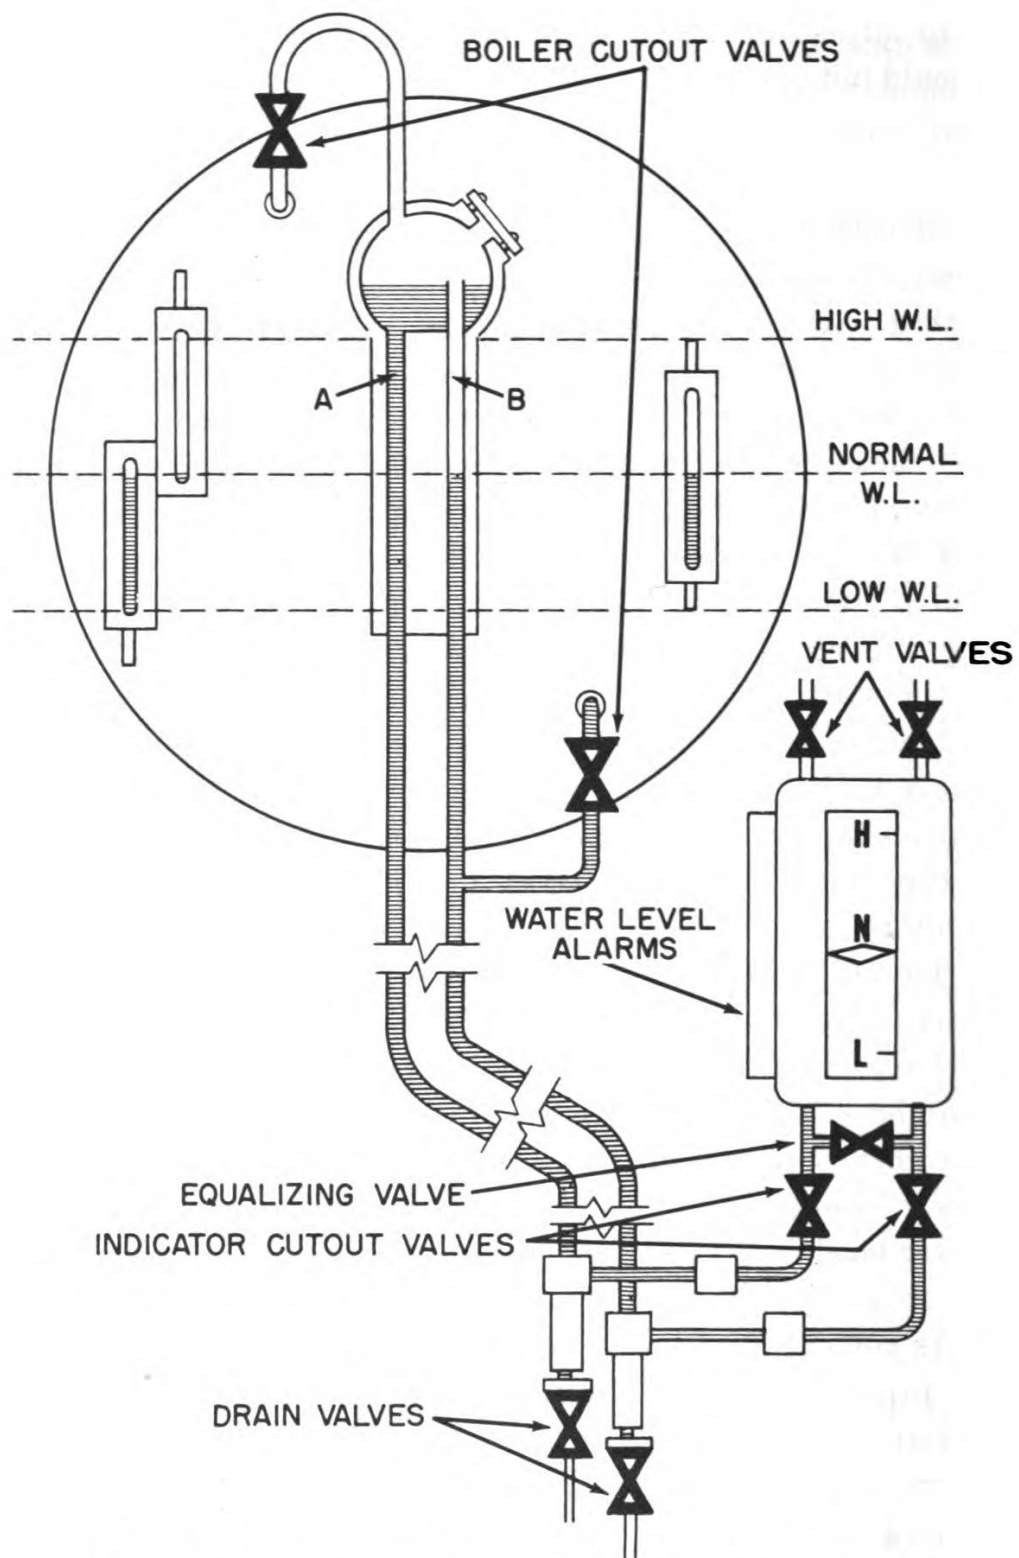

Figure 4-11.—Remote water level indicator (general arrangement).
Remote water level indicators are installed in some naval vessels to show the water level in the steam drum. The indicating part of the instrument may be mounted at any convenient location below the level of the steam drum. The component parts of the remote water level indicator are: (1) the boiler unit, which is mounted on the end of the steam drum, between the two water gage glasses; (2) a graduated indicator, which is usually mounted on an instrument panel; and (3) two copper tubes, which connect the boiler unit and the indicator. Figure 4-11 shows the general arrangement of the Yarway remote water level indicator.
The boiler unit has two chambers, marked *A* and *B* in figure 4-11. A constant water level is maintained in chamber *A*; in chamber *B*, the water level varies with the water level in the steam drum. The boiler unit is connected to the steam drum by two pipes. One of the pipes connects the top of the boiler unit to the steam drum, at a point above the highest water level to be indicated. Because of this connection, boiler pressure is exerted equally upon the water in the two chambers. The other (bottom) pipe connects the line from chamber *B* to the steam drum, at a point below the lowest water level to be indicated. Because of this connection, the water level in chamber *B* is equalized with the water level in the steam drum.
As you can see from figure 4-11, each chamber is connected by piping to the indicator, where the columns of water terminate on opposite sides of a diaphragm. The indicating unit itself is almost identical to the indicating unit of the Yarway superheater steam flow indicator, previously described. The essential parts of the indicating unit are the